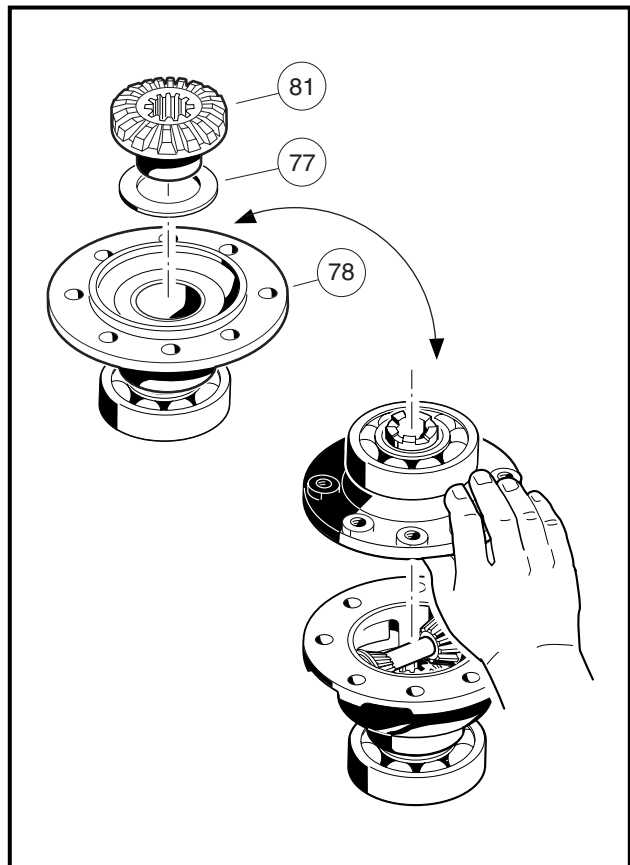

Figure 6-37 Carrier Case
- Install the thrust plate (77) and differential gear (81) into the carrier case cover (78) (**Figure 6-37, Page 6-18**). While holding the thrust plate and differential gear in place, position the carrier case cover on the carrier case.